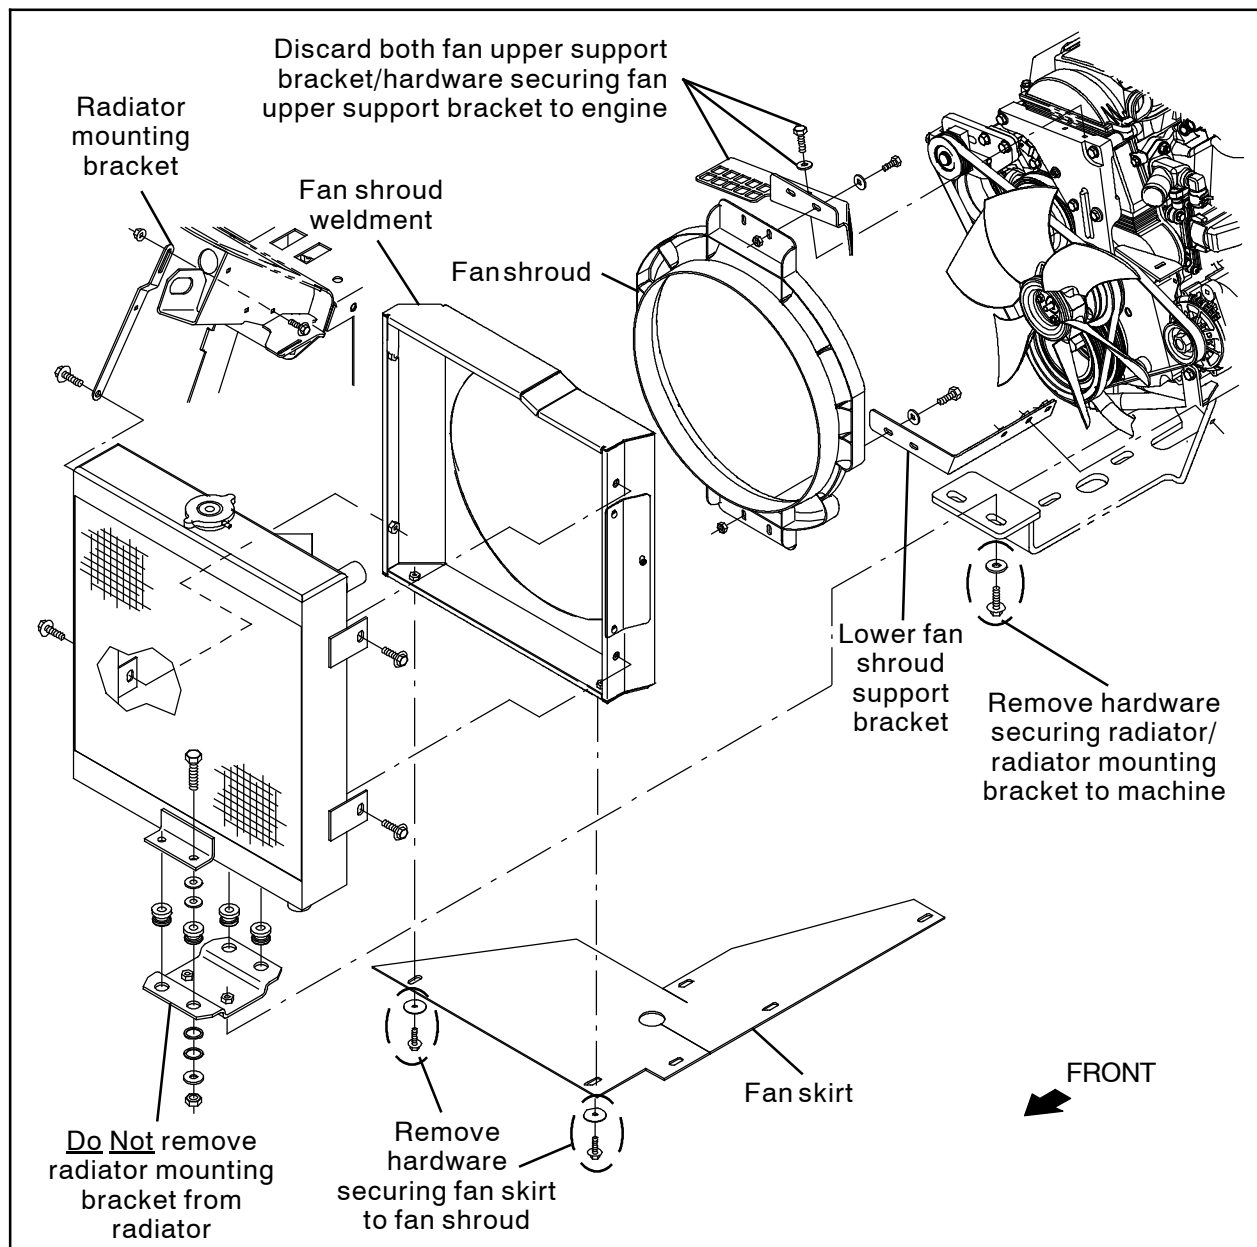
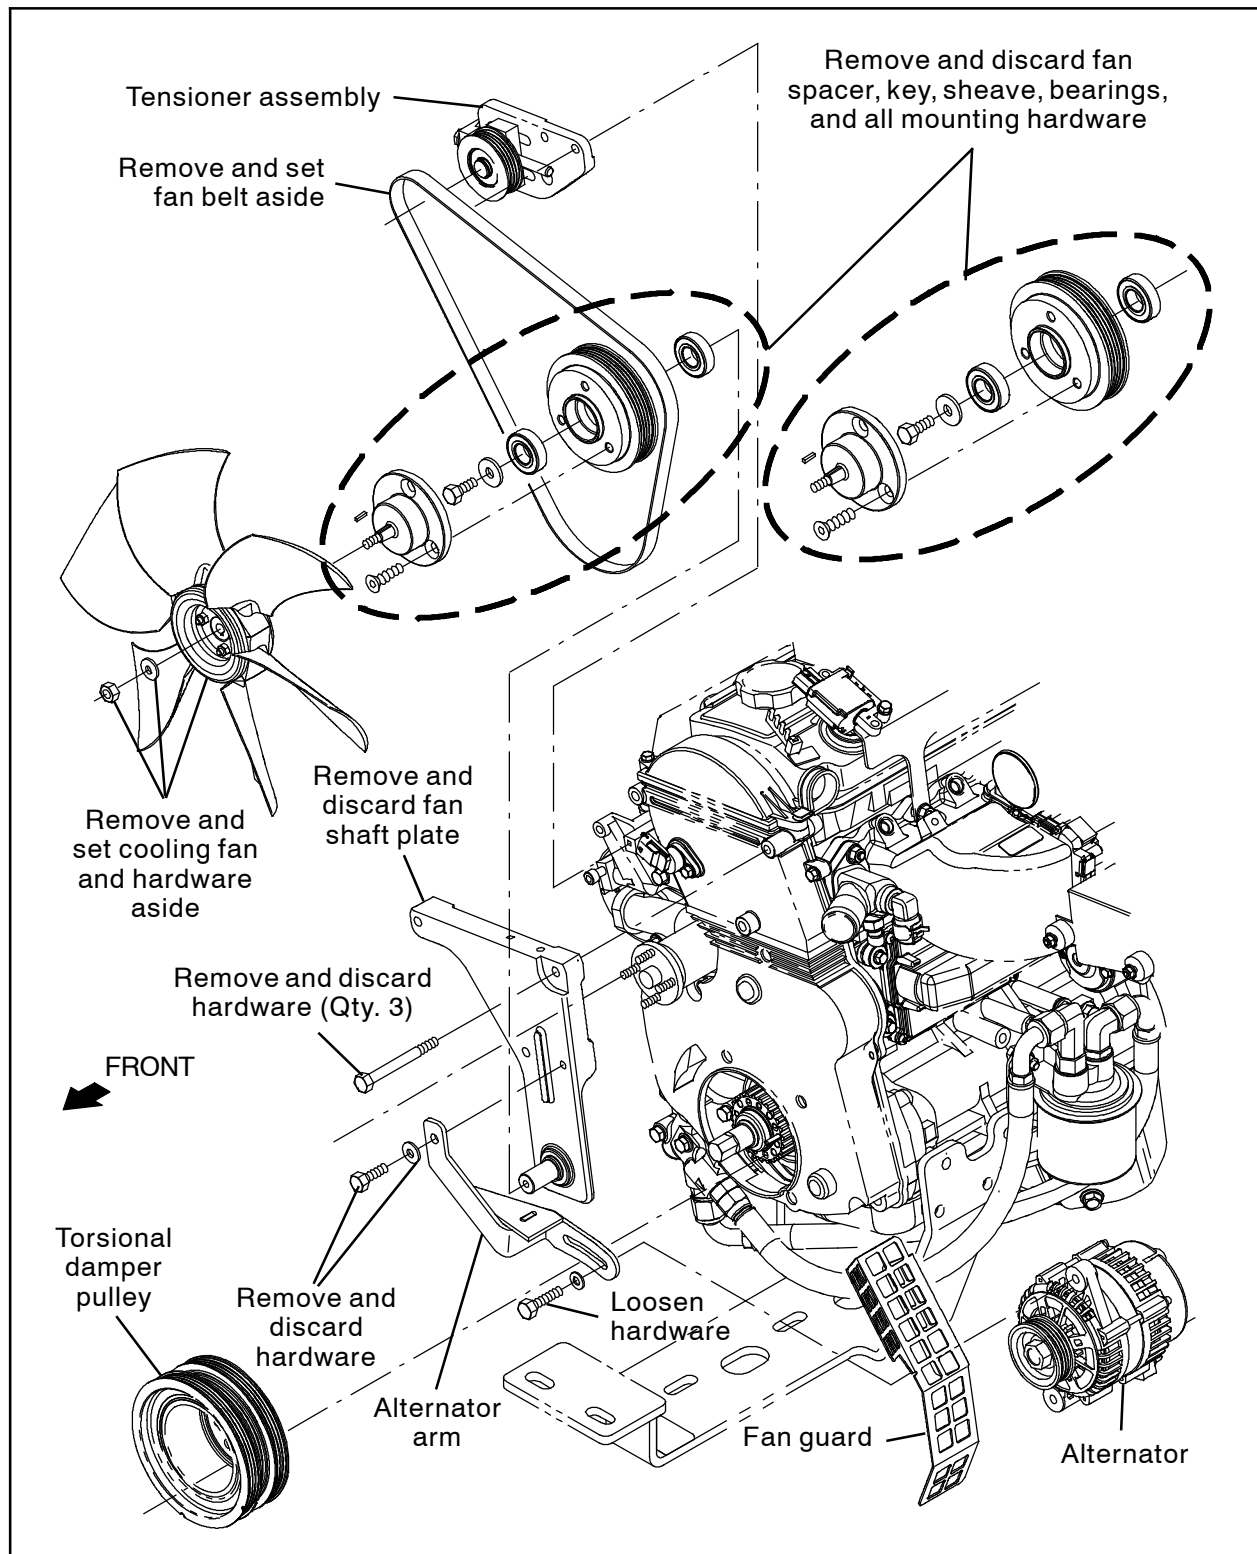

FIG. 1
FIG. 2
1. Loosen the hardware securing the fan shroud weldment to the machine. Set the removed hardware aside. (Fig. 1)
2. Remove the hardware securing the fan skirt to the fan shroud weldment. Set the hardware aside. (Fig. 1)
4. Remove the radiator/radiator mounting bracket from the machine. Set the radiator/radiator mounting bracket and all mounting hardware aside. (Fig. 1)
5. Remove the fan shroud weldment from the machine. Set the fan shroud weldment and all mounting hardware aside. (Fig. 1)
6. Remove the fan upper support bracket from the machine. Set the hardware securing fan upper support bracket to the fan shroud aside. Discard the fan upper support bracket and the hardware that secured the fan upper support bracket to the engine. (Fig. 1)
7. Remove the fan shroud from the machine. Set the fan shroud and mounting hardware aside. (Fig. 1)
8. Remove the cooling fan from the engine. Set cooling fan and all hardware aside. (Fig. 2)
9. Remove the engine belt from the machine. Set the fan belt aside. (Fig. 2)
10. Remove the sheave and fan hub pulley from the machine. Discard the sheave, spacer, key, bearings, and all mounting hardware. (Fig. 2)
11. Remove the hardware securing the alternator arm to the fan shaft plate. Set the hardware aside. (Fig. 2)
12. Remove/move components necessary to access and remove the fan shaft plate from the machine. Set all removed items aside. (Fig. 1/ Fig. 2)
13. Remove the fan shaft plate from the machine. Set all mounting hardware aside. Discard the fan shaft plate. (Fig. 2)